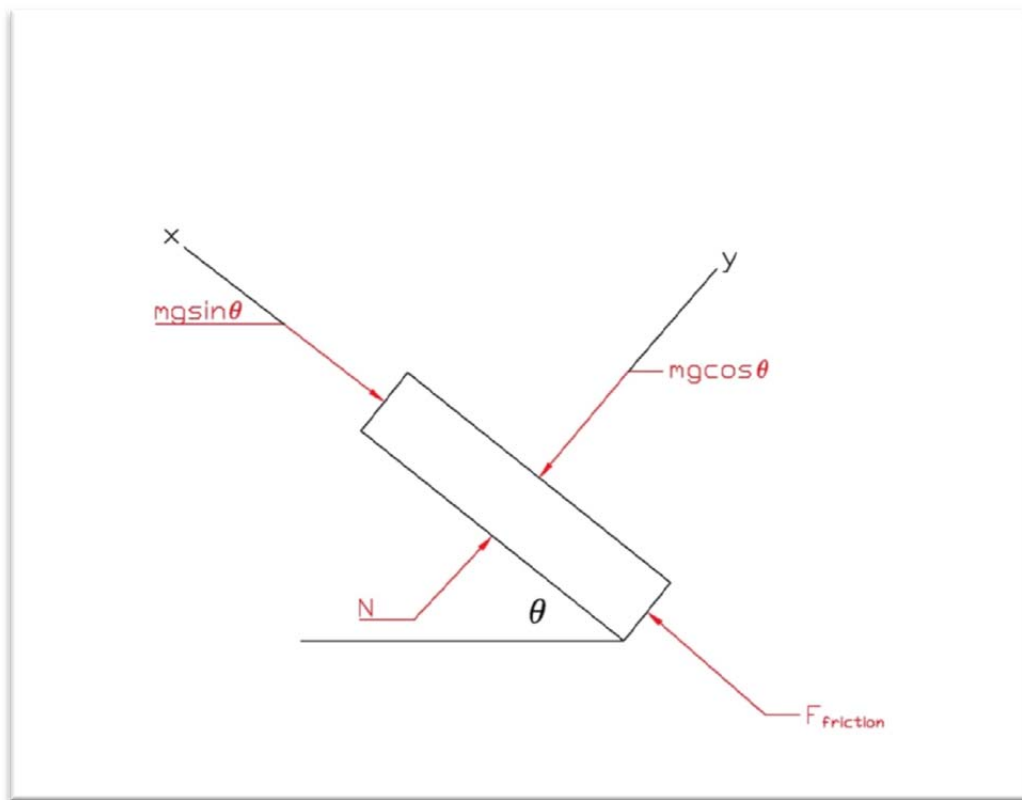

Figure 2: Free Body Diagram of object and Inclined Plane in Static Equilibrium
Friction forces involve tangential forces generated between contacting surfaces. There are several different types of frictional forces, but in this lab dry friction will only be dealt with. Dry friction occurs when unlubricated surfaces of two solids are in contact under a condition of sliding or a tendency to slide. The friction force always occurs tangent to the surface in contact, and opposing direction of the object's motion or impending motion (see figure 2). Before the object slides, or up to the point of slippage there is a region known as static friction where the object is not in motion. The static friction force can have a value anywhere from zero up to and including the maximum value. This maximum value of friction (F_{\max}) is proportional to the normal force (N) given in this equation:
1. Use the free body diagram in Figure 2 to solve for N and F_{\max} in terms of m , g , and θ . (Hint: equal opposite forces exist as the model obeys Newton's third law.)